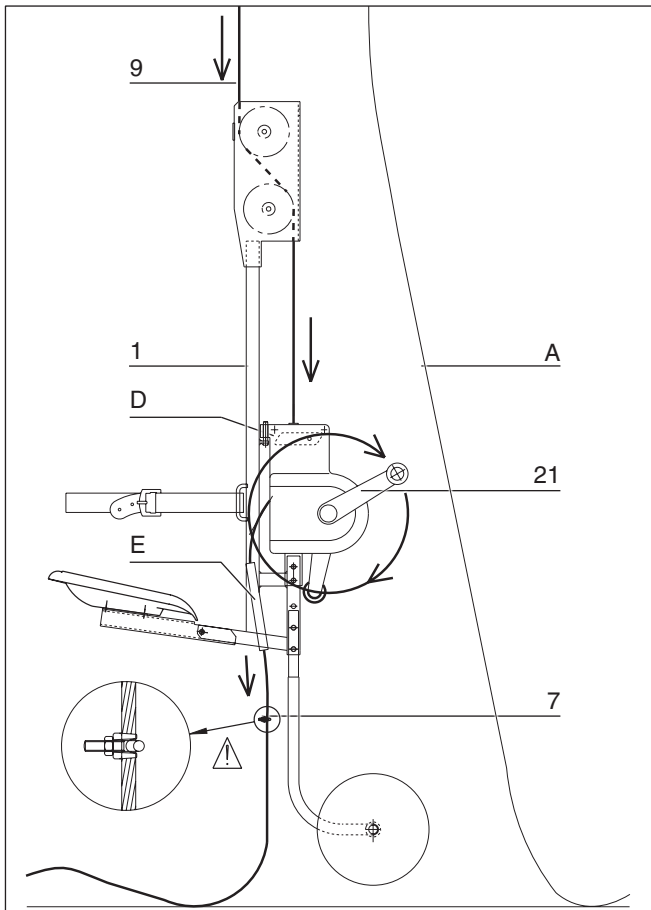

Fig. 6 - Insert the lifting wire rope
Insert the lifting wire rope (Fig. 6)
3. Manually push the wire rope through the hoist using the yellow handle (D) to open the jaws.
4. Turn the right-hand handle (21) clockwise until the wire rope emerges from the bottom. Where necessary, push the wire rope to ease it through.
5. Manually guide the end of the wire rope to ensure that it passes through the wire rope guide (guide tube) (E).
7. Fix the wire rope safety clamp (7) to the carrying wire rope (Fig. 6) at about 200 mm from the guide tube. Tighten the two locknuts.